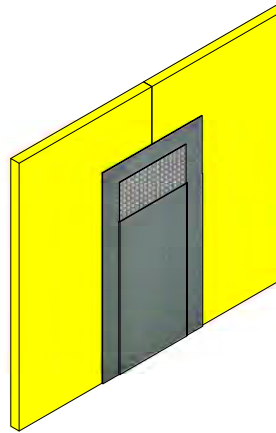

Figure 3
3. Apply additional SENERSHIELD-R or SENERSHIELD-VB onto the SHEATHING FABRIC to embed. (See Figure 3)